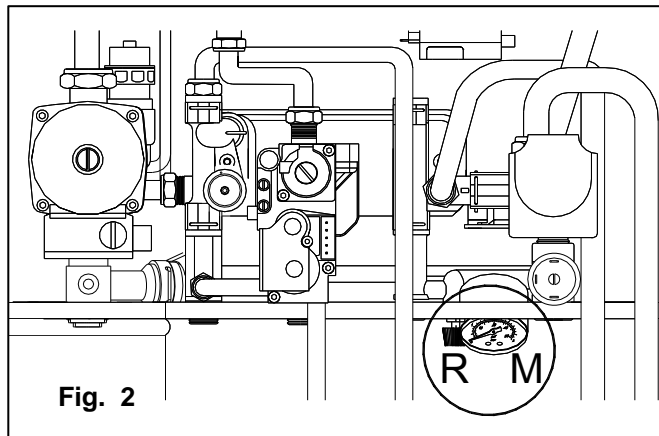

Fig. 2
The water pressure in the central heating circuit must be checked during the entire period of operation of the boiler. In this respect, the reading on the pressure gauge **M** (fig. 2), located on the lower part of the boiler, must not be less than 1 bar.
If there is insufficient water in the boiler, the code **H2O** will flash on the display (see fig 2).
To bring the system back up to pressure, open the external filling tap **R** (fig. 2) and use the pressure gauge **M** (fig. 2) to check that the system pressure reaches 1 bar and that the code **H2O** lights up.
- Check the water pressure in the central heating circuit. The reading on the pressure gauge **M** (see fig. 2), located on the lower part of the boiler, must not be less than 1 bar .